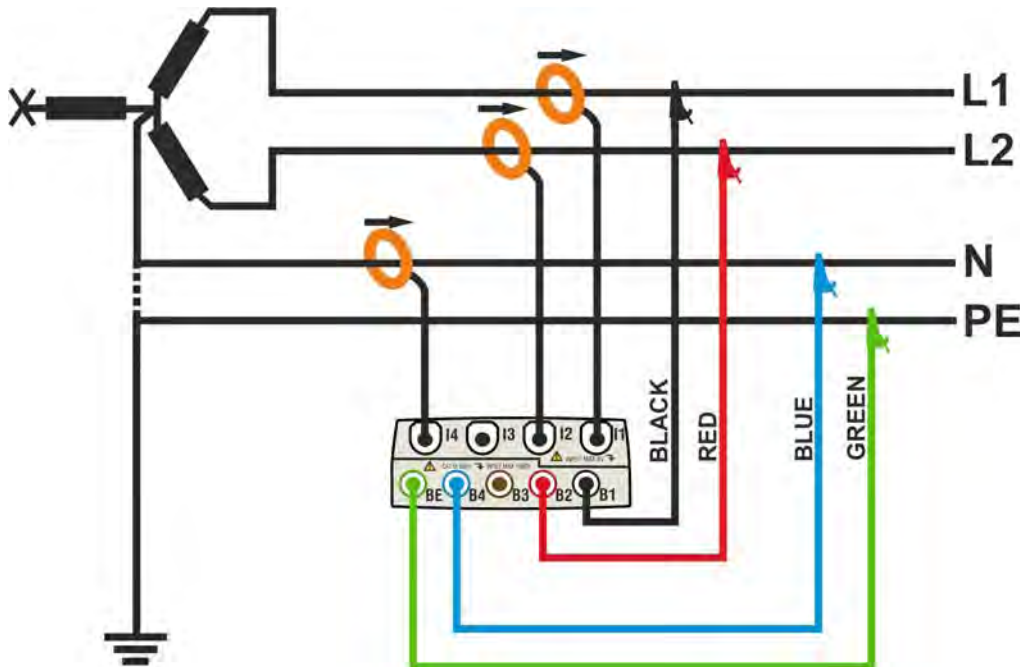

Fig. 144: Meter connection in a two phase 3-wire 3POY system – ENG type
2. Connect voltage test leads on Phases L1, L2, N and PE cables considering the colours as shown in Fig. 144
3. Connect the transducer current clamps on Phase L1, L2, N cables as shown in Fig. 144 respecting the clamp's arrow direction indicating the current standard sequence from generator to load. **On Real Time Values' section screens (selecting a 3 wire system preliminarily) always verify the positive value of Active Power and the power factor relative to load which should be normally inductive before starting a recording.** Reverse the clamp by 180 degrees on cables in case of negative readings.